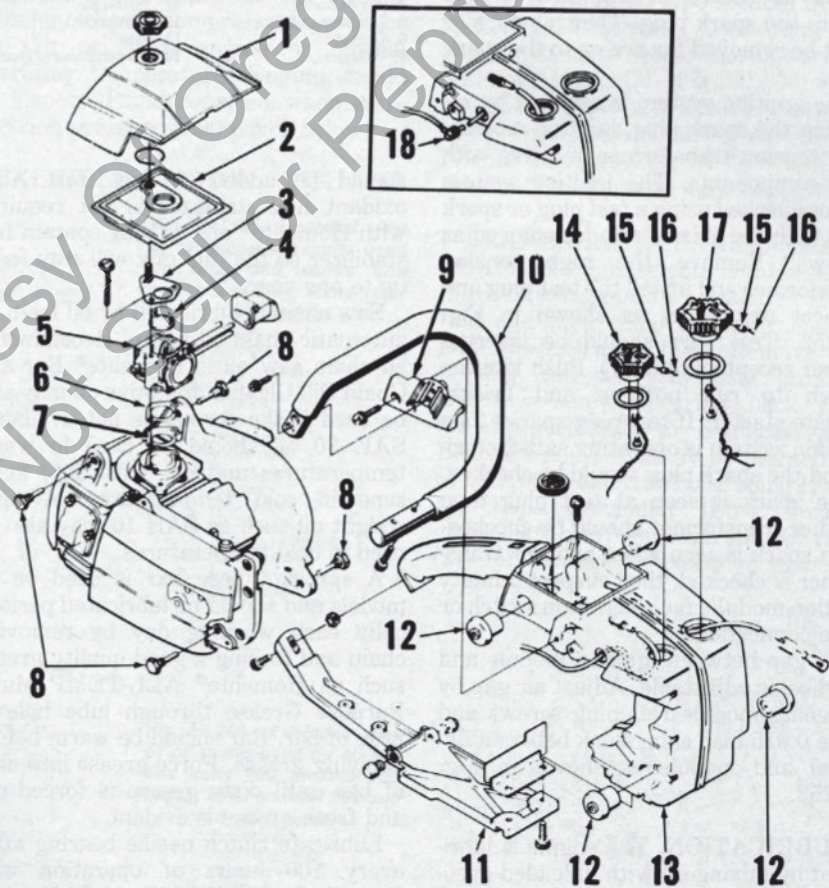
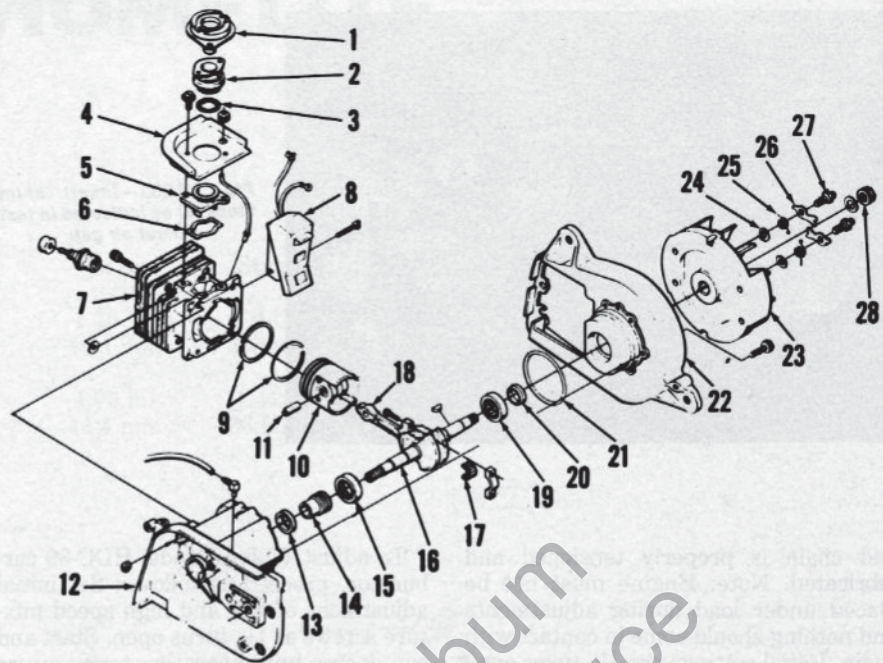

Fig. HL255—Exploded view of engine housing assembly. Some housings will use a threaded elbow fitting (18) on oil pickup tube as shown in inset.
Fig. HL257 — Exploded view of engine.
A thin coat of suitable RTV silicone rubber sealant should be applied to both sides of intake gasket (6—Fig. HL257).
VIBRATION ISOLATORS. All models are equipped with cushion type vibration isolators (12—Fig. HL255) between powerhead and housing assembly (13). Isolators may be renewed as follows:
Remove air filter cover, filter, drive case cover and guide bar. Remove handle brace (11—Fig. HL255). Unscrew two screws securing carburetor and disconnect pulse line at rear of carburetor. Lift and angle carburetor and grommet on carburetor adjustment screws to gain access to two screws in floor of air box. Unscrew screws. Remove isolator pins (8) and lift upward on throttle grip and gently slide engine housing (13) free of powerhead until it is possible to remove rear isolators. Disconnect oil line (Fig. HL265) and slide housing further off powerhead for access to front isolators.
Reverse isolator removal procedure to reassemble saw. Apply a thin coat of RTV silicone rubber sealant to both sides of intake gasket (6—Fig. HL257). Carburetor pulse line should be routed around rear of air box and over carburetor control rods before connecting pulse line to carburetor. Tighten carburetor retaining screws to 45 in.-lbs. and isolator pins (8—Fig. HL255) to 80 in.-lbs. Tighten handle brace (11) screws to 45 in.-lbs.
RINGS. Cylinder can be removed using the following procedure: Remove handle bar and chain guide bar and then using procedure in VIBRATION ISOLATORS section, remove housing assembly (13—Fig. HL255) from powerhead. Remove starter housing, disconnect wires from ignition module and remove high voltage transformer coil and cylinder shield (2—Fig. HL251). Detach muffler from powerhead. Remove intake manifold. Unscrew socket head screws retaining cylinder and remove cylinder.
CRANKSHAFT, CRANKCASE AND SEALS. To disassemble crankcase, remove clutch as outlined in CLUTCH section and then remove starter housing and flywheel assemblies. Remove connecting rod as previously outlined. Unscrew screw securing back plate (22—Fig. HL257) to crankcase (12). Bearings and seals may be pressed out of back plate and crankcase using Homelite tools previously listed. Inspect crankshaft bearings, seals and "O" rings (21) for damage or excessive wear. Be